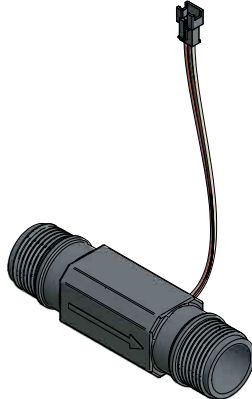

Figure 1
1. Install the 1" flow meter in the conditioned water outlet line of the system it is monitoring. The arrow on the flow meter must point in the direction of water flow. See Figure 1.